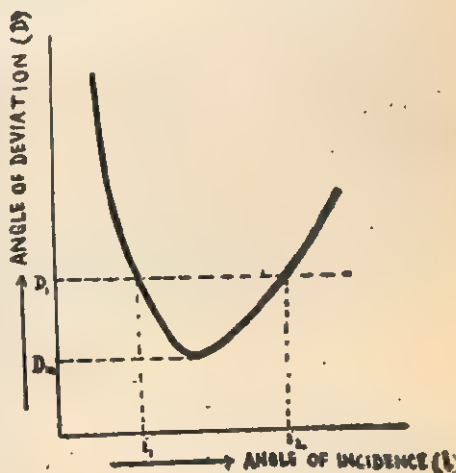

Fig. 11.16.  $i$ - $D$  graph for a prism.
**Graph.** Plot a graph by taking angle of incidence  $i$  along X-axis and angle of deviation  $D$  along Y-axis as shown in Fig. 11.16.
Thus there is a particular value of the angle of incidence for which the angle of deviation is minimum  $D_m$ . It is called the angle of **minimum deviation**. As shown in the Fig. 11.16, a line parallel to  $i$ -axis cuts the graph at two points. It means that one angle of deviation can be obtained for two angles of incidence. However, for the